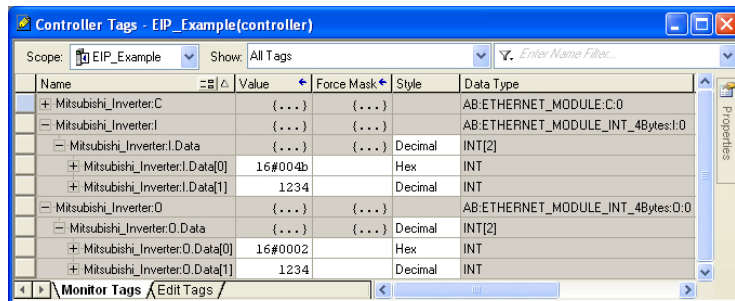

Figure 87: Controller Tags for I/O Access
- 8) By double-clicking "Controller Tags" in the project tree, it is possible to view the newly-added tags. Refer to Figure 87. The Mitsubishi_Inverter:C configuration tag is unused, the Mitsubishi_Inverter:I tag allows viewing of the input data, and the Mitsubishi_Inverter:O tag allows modification of the output data. These tags will be synchronized with the inverter at whatever rate was established for the module's RPI.
We can directly interact with these tags in order to control and monitor the inverter. In Figure 87, for example, we can see that the first 16-bit word of output data